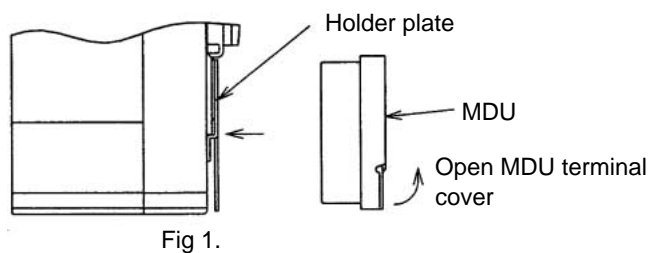

Fig 1.
##### ① Fit MDU to holder plate. (See Fig 1.)
- Keep space greater than value of Fig 1.